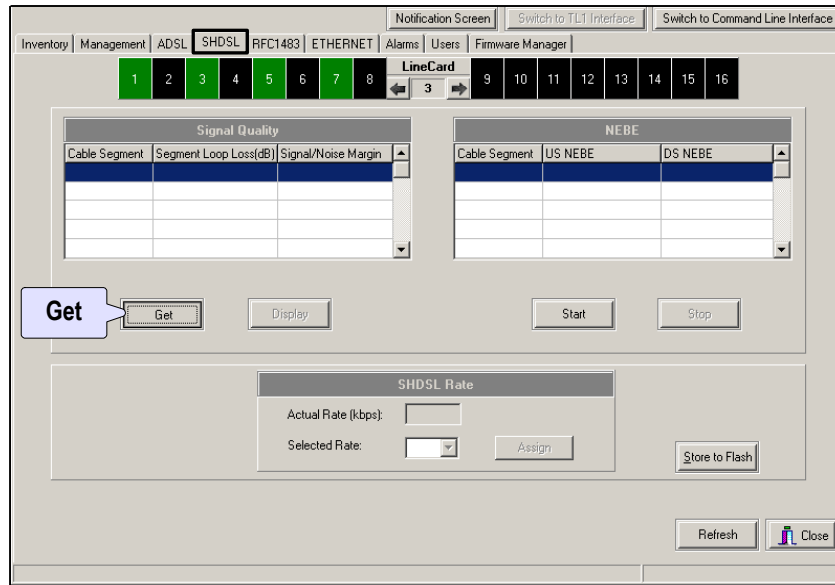

Figure 62 – Get performance data
- 3 Click **Get** (Figure 62).